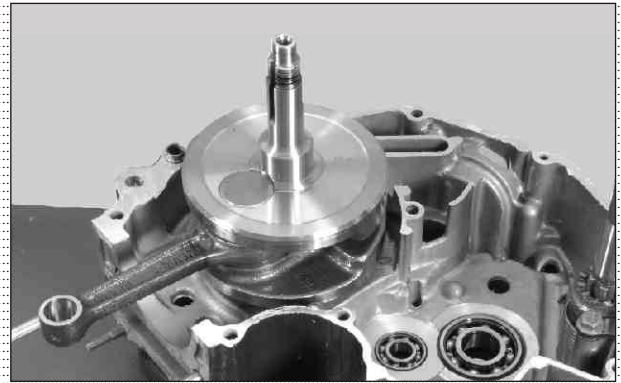

Fig. 3.103
- Pull out crankshaft assembly by gently tapping it from the other side. (Fig. 3.103)